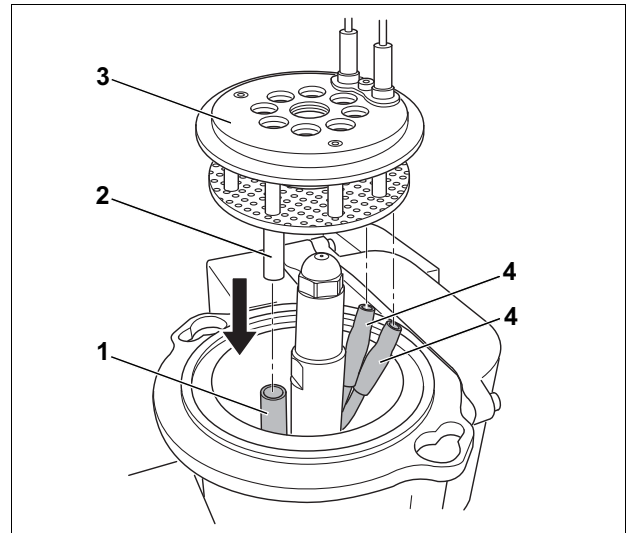

Fig. 25 Installing mixing system
- Reassemble the mixing system (Fig. 25, **Item 3**).
- Correctly attach the ignition leads (Fig. 25, **Item 4**).
- Slide flame sensor tube (Fig. 25, **Item 2**) into the guide tube (Fig. 25, **Item 1**).